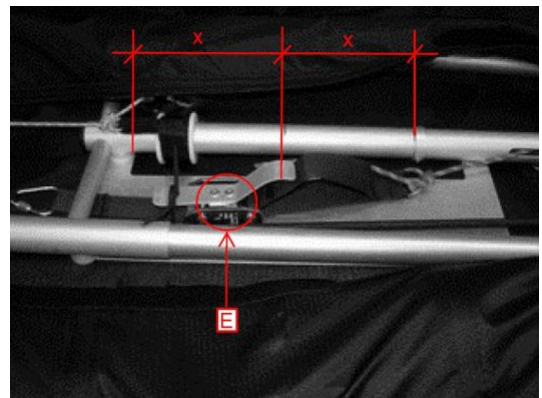

Figure 5
4. Mark the position for the lever mechanism and holes to fix it (fig.5).
5. Make sure to position the lever mechanism on the middle ( $X = X$ ) (fig.5).
10. Mount the strap, the lever and both pins (fig 5) (E).